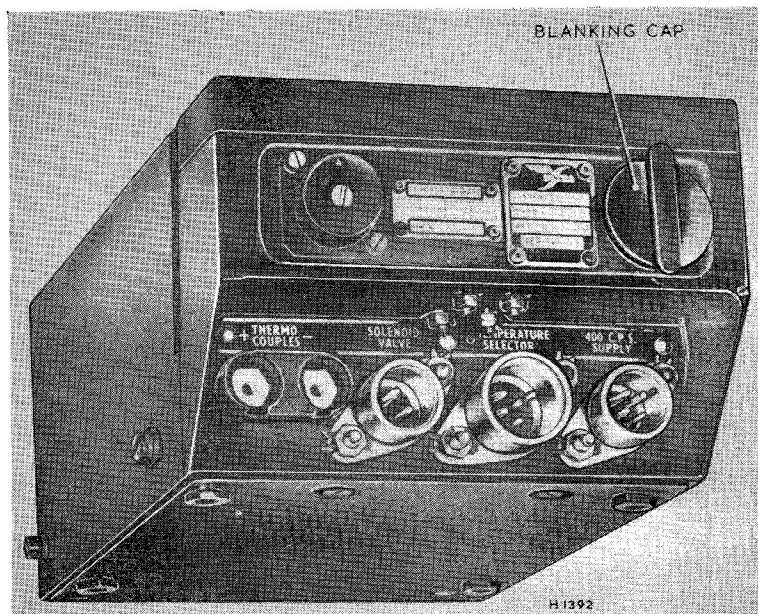
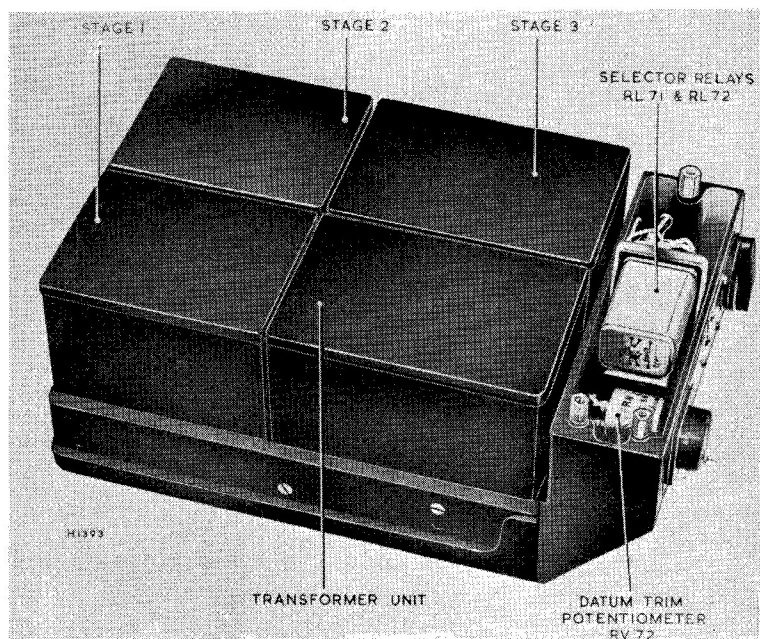

Fig. 1. Amplifier unit, Ultra, Type A431
Fig. 2. Top of amplifier (cover removed)
1. The magnetic amplifier unit, Ultra, Type A431 (fig. 1), is designed to limit jet-pipe temperature at any predetermined value. Selector bobbins are used in conjunction with the amplifier unit to enable specific datum temperatures to be selected. Each selector bobbin enables a maximum of three
3. The components of the amplifier unit are mounted on two castings, which are assembled to form a single housing. Removing the top covers (*fig. 2*) of the respective castings reveals the amplifying stages, transformer unit, selector relays and the datum trim potentiometer. The illustration of the amplifier unit (*fig. 1*) shows a blanking cap which is removed when inserting a selector bobbin. Amplifying stages 1, 2 and 3, the transformer unit, the cold junction compensator (C.J.C.) and the datum depression unit, are housed in individual sealed cans. Access to their electrical connections is gained by removing the baseplate from the underside of the unit. A layout diagram (*fig. 7*) shows the location of components, together with their respective seal numbers which are mounted on the underside of the amplifier unit. These include the amplifier controls,